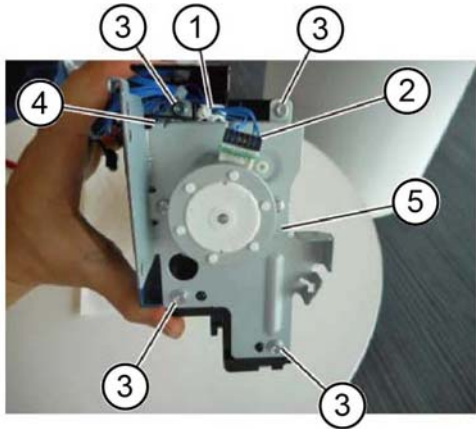

Figure 5 Motor removal
11. Remove the rear bracket and exit 2 motor, **Figure 5**:
- a. Release the clamp, then remove the harness (1).
- b. Disconnect the connector (2).
- c. Remove four screws (3).
- d. Disengage the hook (4),
- e. Remove the rear bracket and exit 2 motor (5).